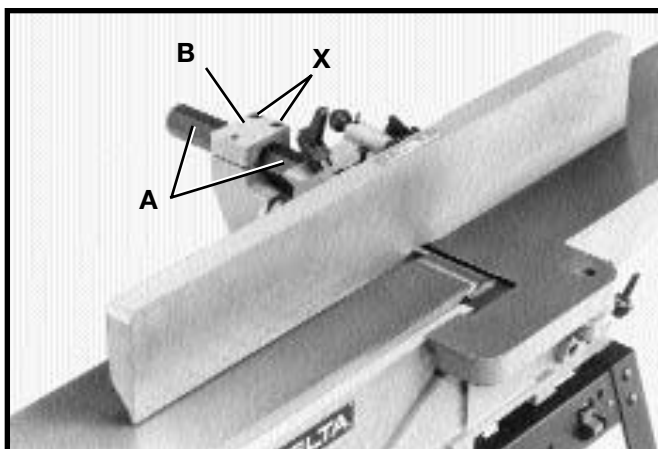

Fig. 20
1. Insert hexagon rod (A) Fig. 20, of fence assembly into bracket (B) on jointer as shown.
NOTE: If fence does not slide in and out easily, loosen two screws (X) Fig. 20, and adjust bracket (B). Then tighten two screws (X).